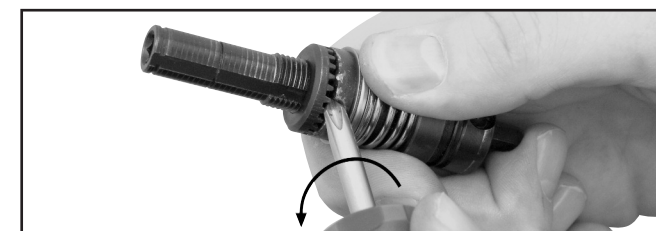

Fig. 5
4. Place the torque adjusting screwdriver which is provided between the adjustment nut and the adjustment lock ring. Turn the screwdriver in a counterclockwise direction (See fig. 5). Slowly the adjustment nut will work loose until a point at which it can be rotated using your fingers.